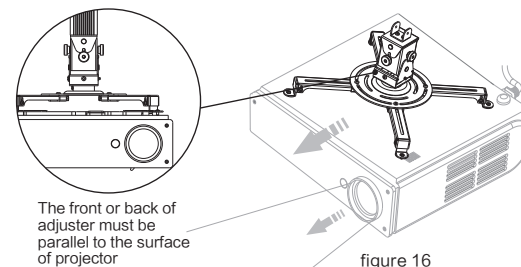

figure 16
5. The front or back of adjuster must be parallel to the surface of projector as figure 16